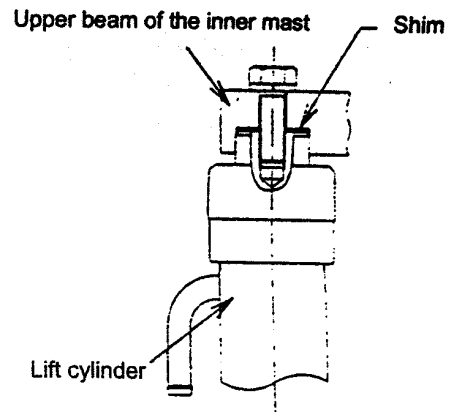

Fig8.5
8.6.1 Adjustment of lift cylinder (Fig8.5)